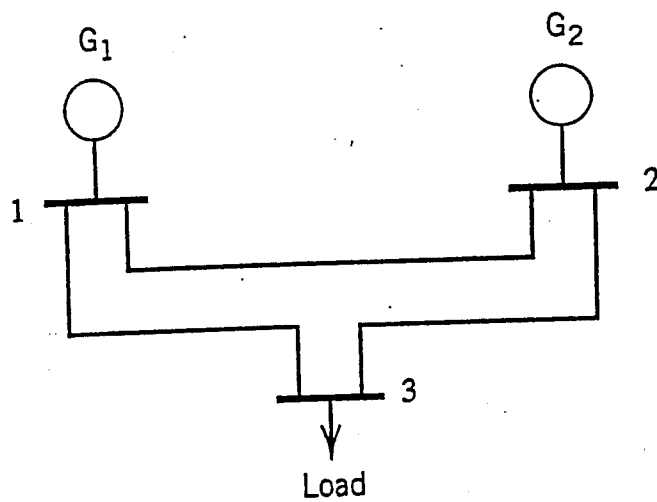

Figure 3.1
3. For the three-bus system shown in Figure 3.1, generator G_1 is chosen as swing generator. Bus 2 is a generator bus and bus 3 is a load bus. The line reactances are given as: $X_{12} = 0.2$ p.u., $X_{13} = 0.25$ p.u., $X_{23} = 0.4$ p.u.